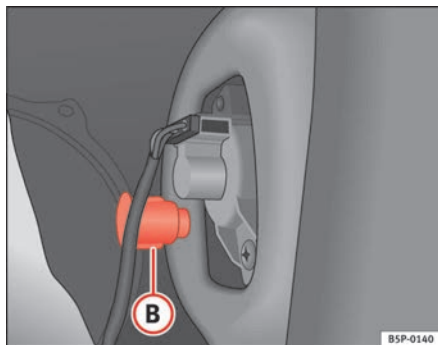

Fig. 191 Side lights and brake lights
- Unscrew the plastic fitting ⇒ fig. 191 **B** securing the rear light. Inserting a screwdriver under the plastic fitting may help to loosen it.